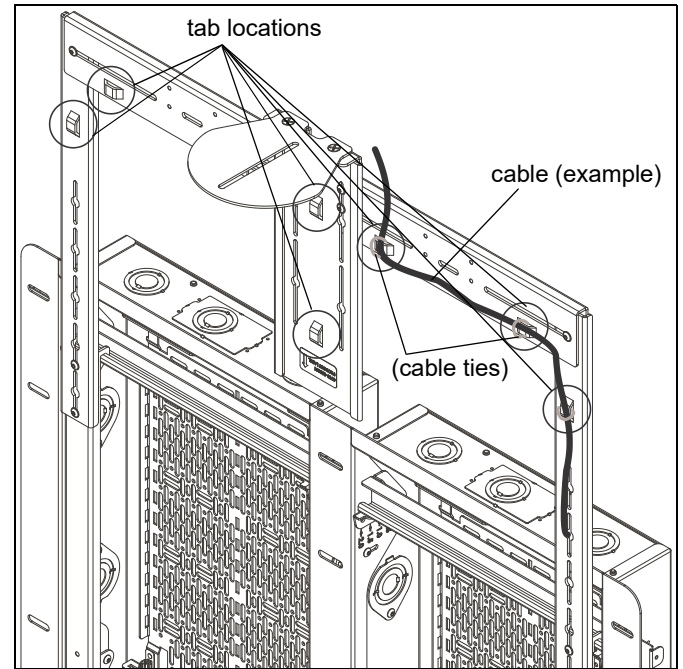

Figure 14
1. Use cable ties (not included) to secure cables as desired to mount utilizing tabs on brackets. (See Figure 14)